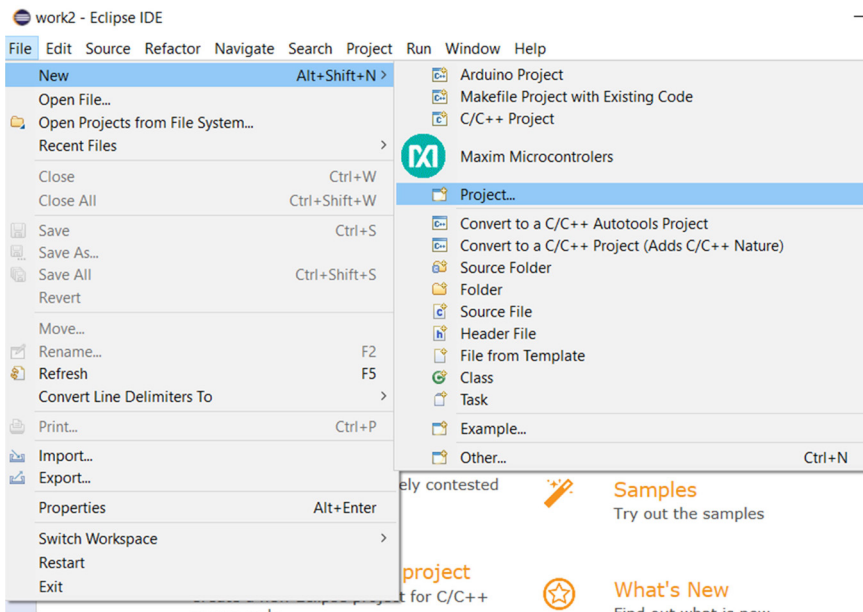

Figure 3.18 Select Projects
- Click **New** followed by **Projects** under **Maxim Microcontrollers** (Figure 3.18)